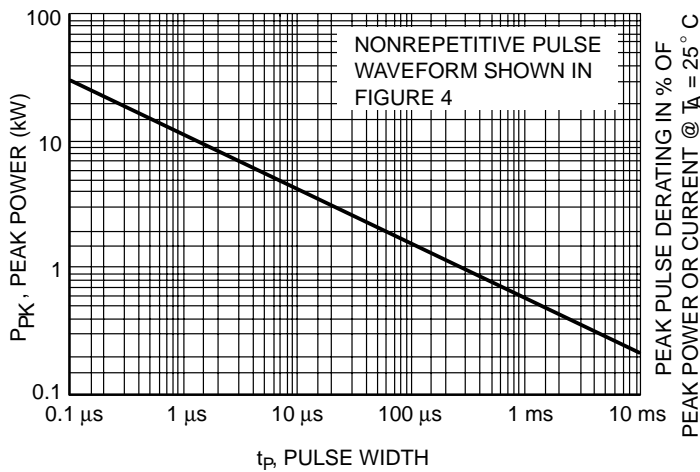
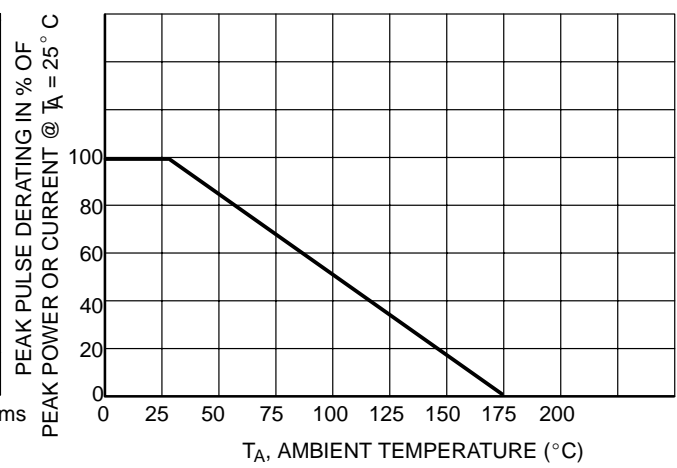
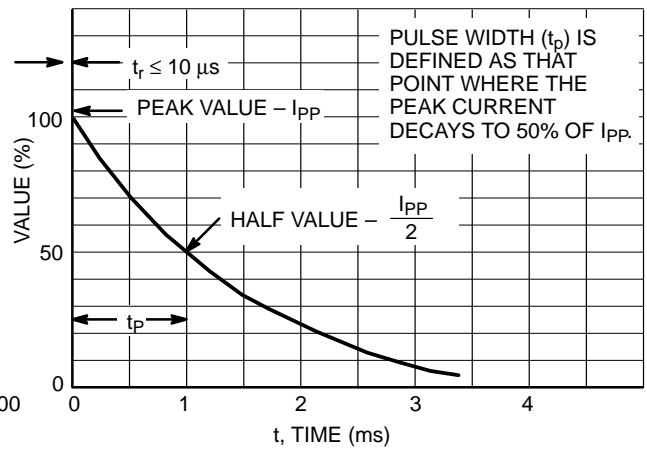
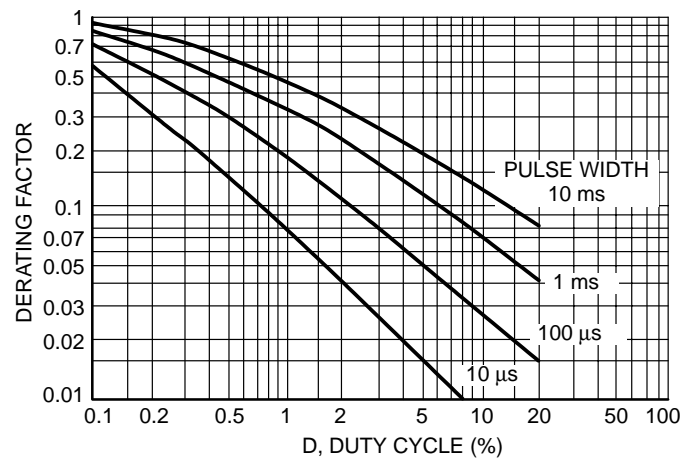

Figure 1. Pulse Rating Curve
Figure 2. Pulse Derating Curve
Figure 4. Pulse Waveform
Figure 6. Typical Derating Factor for Duty Cycle
1. Nonrepetitive current pulse per Figure 4 and derated above  $T_A = 25^\circ\text{C}$  per Figure 2.
5. Surge current waveform per Figure 4 and derate per Figures 1 and 2.
The data of Figure 1 applies for non-repetitive conditions and at a lead temperature of  $25^{\circ}\text{C}$ . If the duty cycle increases, the peak power must be reduced as indicated by the curves of Figure 6. Average power must be derated as the lead or ambient temperature rises above  $25^{\circ}\text{C}$ . The average power derating curve normally given on data sheets may be normalized and used for this purpose.
At first glance the derating curves of Figure 6 appear to be in error as the 10 ms pulse has a higher derating factor than the 10  $\mu\text{s}$  pulse. However, when the derating factor for a given pulse of Figure 6 is multiplied by the peak power value of Figure 1 for the same pulse, the results follow the expected trend.